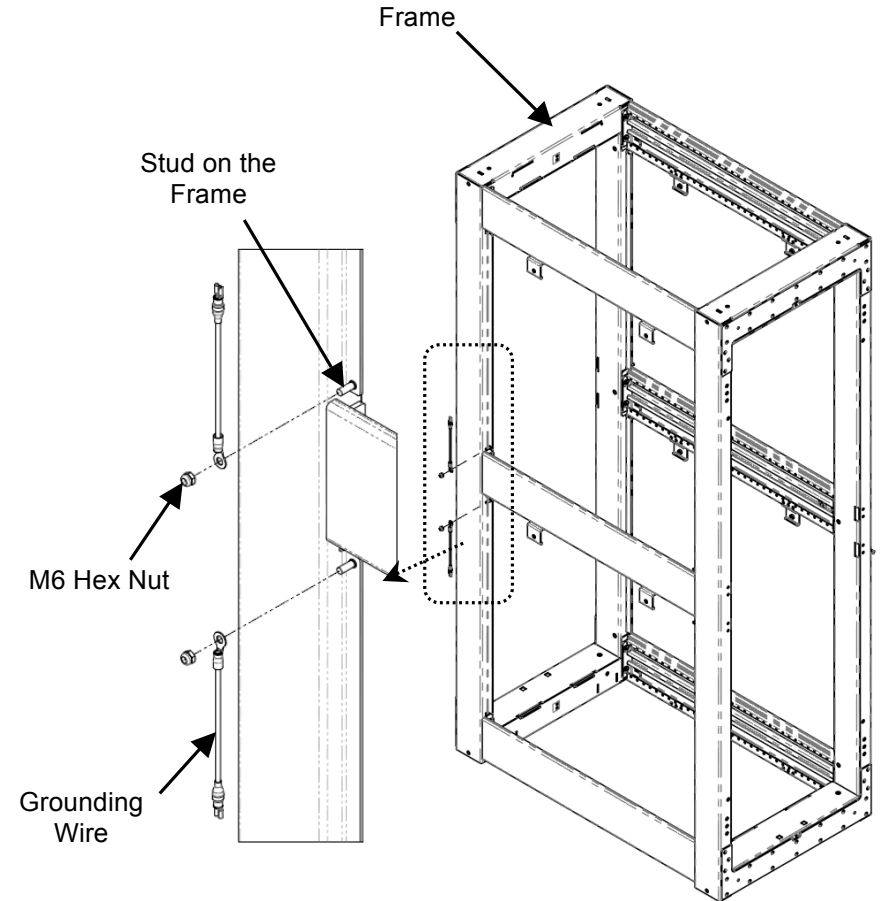

Fig. 1
1. Assemble the grounding wires to the studs available on the frame vertical members using M6 nuts (Fig. 1). The grounding wire can be assembled either at the front or rear of the frame. Torque nuts to 38 in-lb (4.3 N-m).